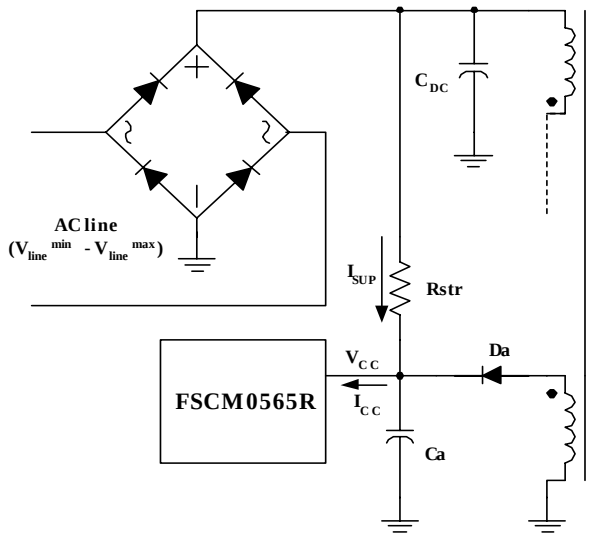
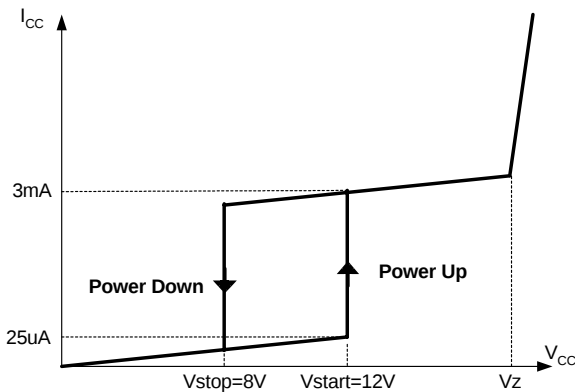

Figure 16. Startup Circuit
Figure 17. Relation Between Operating Supply Current and V_{CC} Voltage
1. Startup: Figure 16 shows the typical startup circuit and transformer auxiliary winding for the FSCM0565R application. Before the FSCM0565R begins switching, it consumes only startup current (typically 25uA) and the current supplied from the DC link supply current consumed by the FPS (I_{CC}), and charges the external capacitor (C_a) that is connected to the V_{CC} pin. When V_{CC} reaches start voltage of 12V (V_{START}), the FSCM0565R begins switching, and the current consumed by the FSCM0565R increases to 3mA. Then, the FSCM0565R continues its normal switching operation and the power required for this device is supplied from the transformer auxiliary winding, unless V_{CC} drops below the stop voltage of 8V (V_{STOP}). To guarantee the stable operation of the control IC, V_{CC} has under voltage lockout (UVLO) with 4V hysteresis. Figure 17 shows the relation between the current consumed by the FPS (I_{CC}) and the supply voltage (V_{CC})